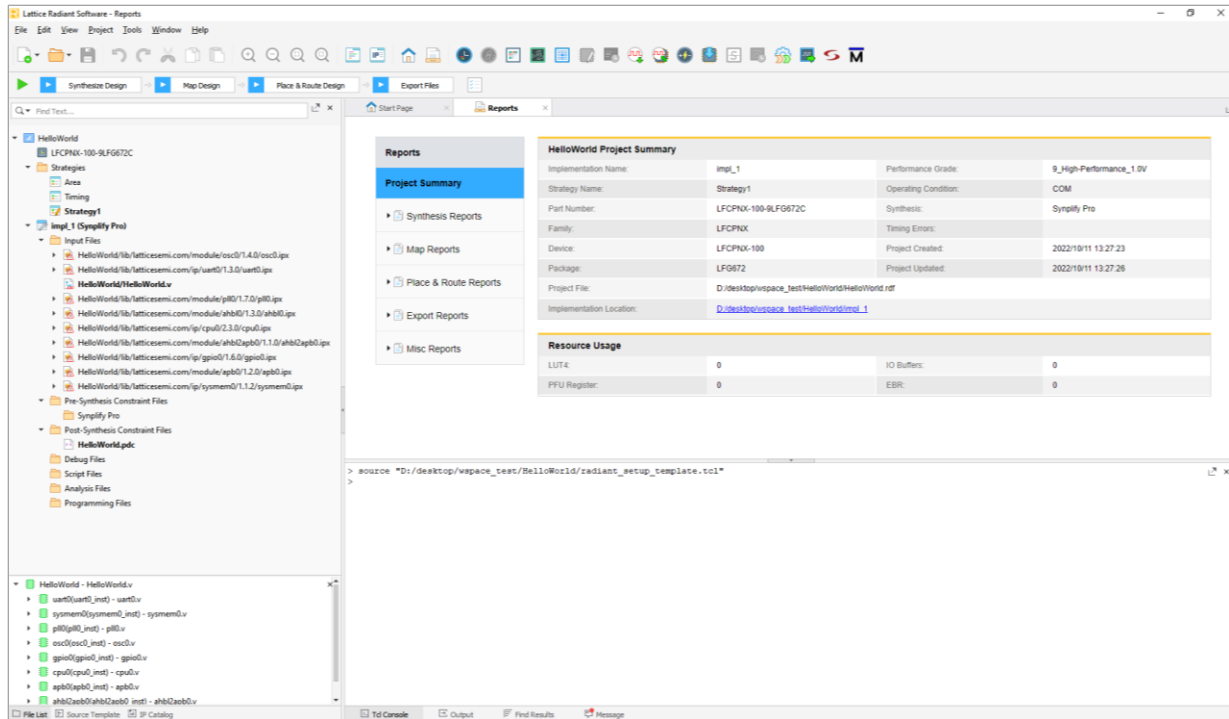

Figure 2.115. Radiant Project
2. Lattice Radiant is launched with a Radiant project generated for SoC at the background (Figure 2.115).